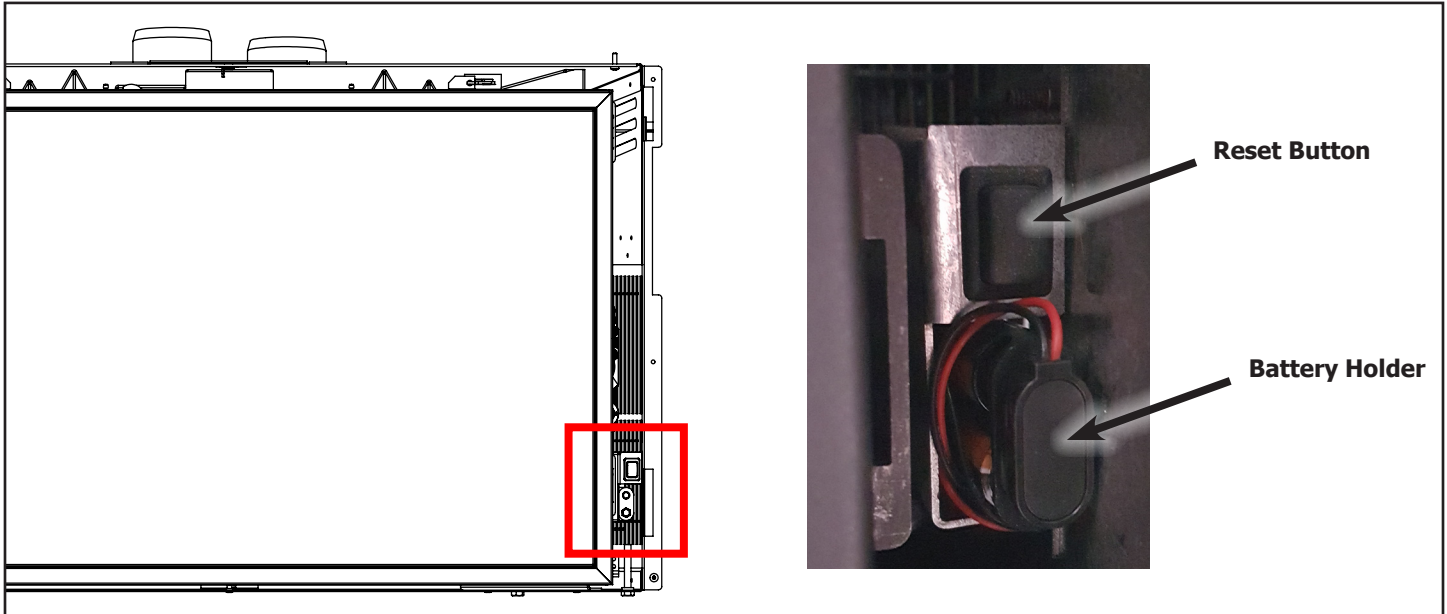

Figure 9: Reset & Battery Location
The battery holder and reset button are located at the bottom right side of the cabinet as shown in Figure 9 below. The battery holder allows the fireplace to operate during periods of power outage. During this time the flame height can still be controlled and adjusted but the fan and lights will not be available until power is restored to help conserve battery life. To install or replace the batteries simply slide out the battery holder. The reset button is used to initialize the system and re-sync the transmitter after battery replacement.
Install the four (4) AA batteries into the IFC battery holder. Note the polarity of the battery and insert into the battery bay as indicated on the body of the battery holder. Press and release the reset button (see Figure 9).